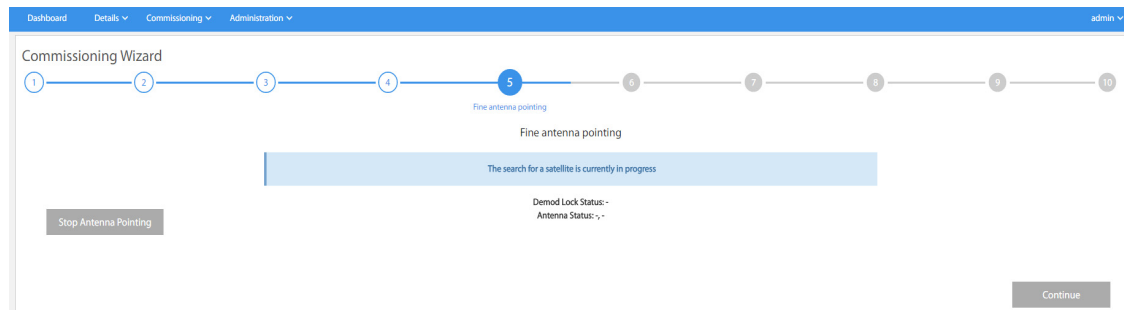

Figure 3-10. Fine Antenna Pointing
- Click **Continue and Position Antenna**. Antenna Pointing starts automatically. The user will not be able proceed (see Figure 3-10) with commissioning until the antenna and demod are locked.